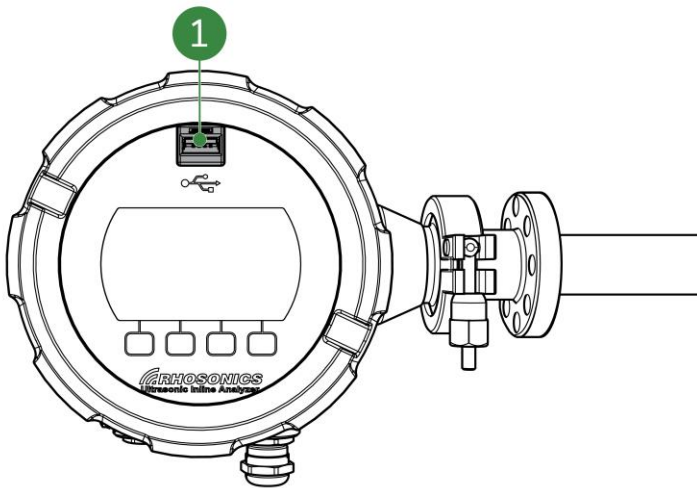

Figure 6-3: USB-port
The USB-port (Figure 6-3, pos. 1) is located top center on the SDM.